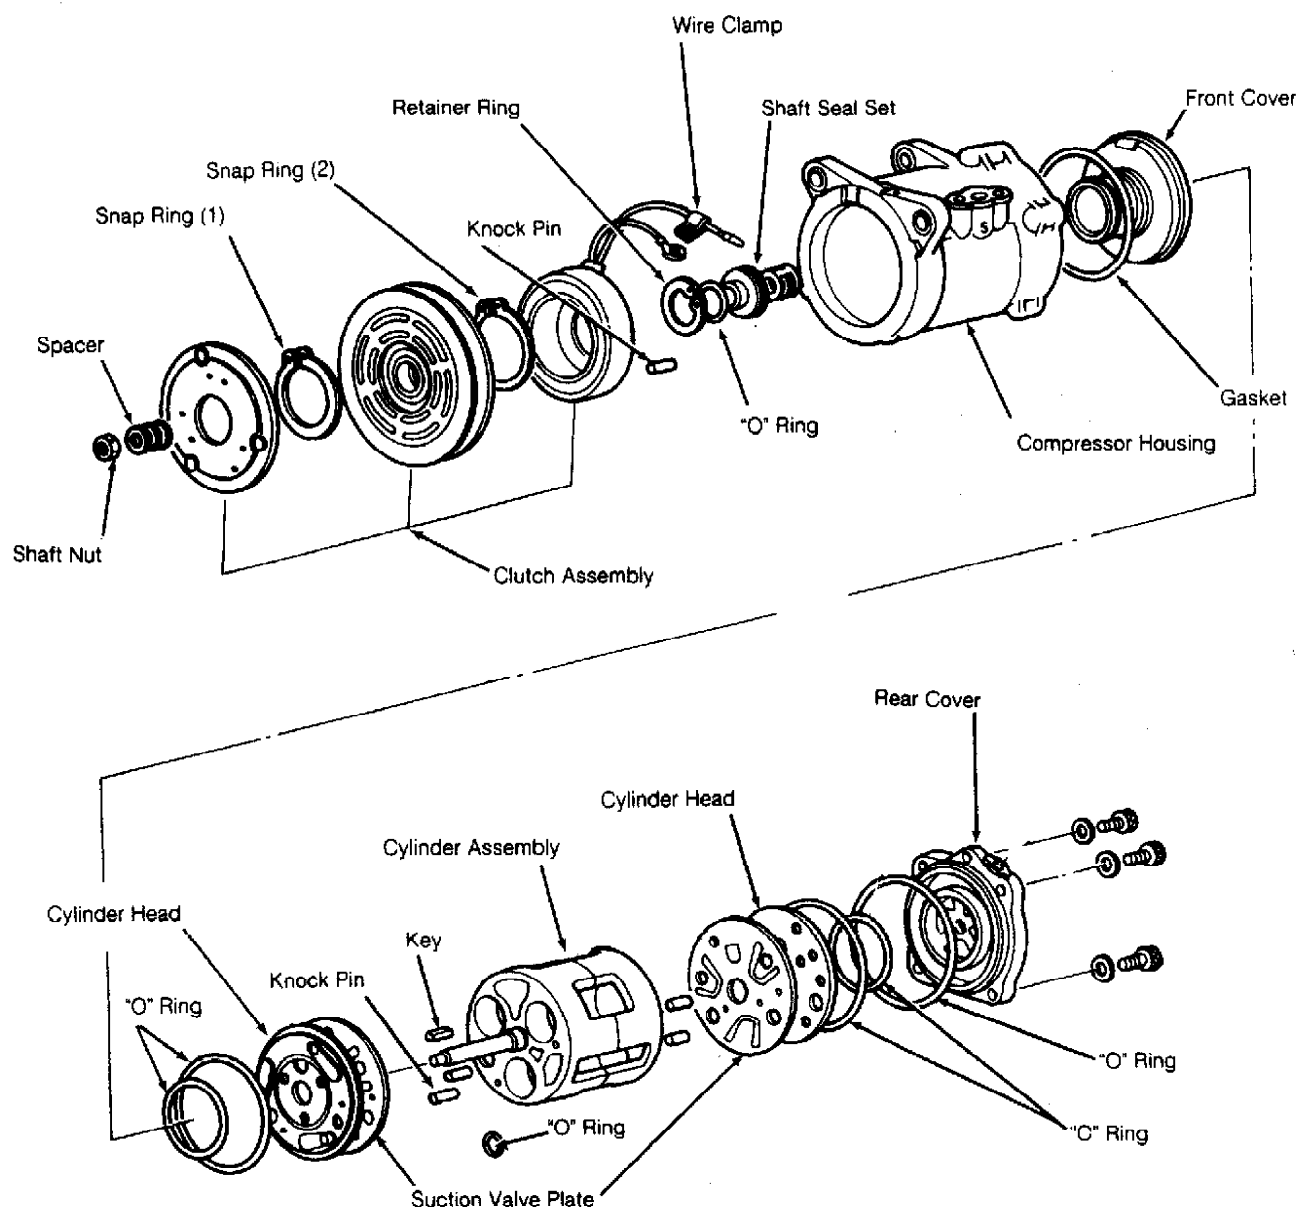

Fig. 9: Hitachi 6-Cylinder Compressor (5-Cylinder Similar)
3) Remove clamping screws that secure coil assembly leads. Remove inner snap ring from coil assembly. Remove coil assembly from front cover. See Fig. 9.